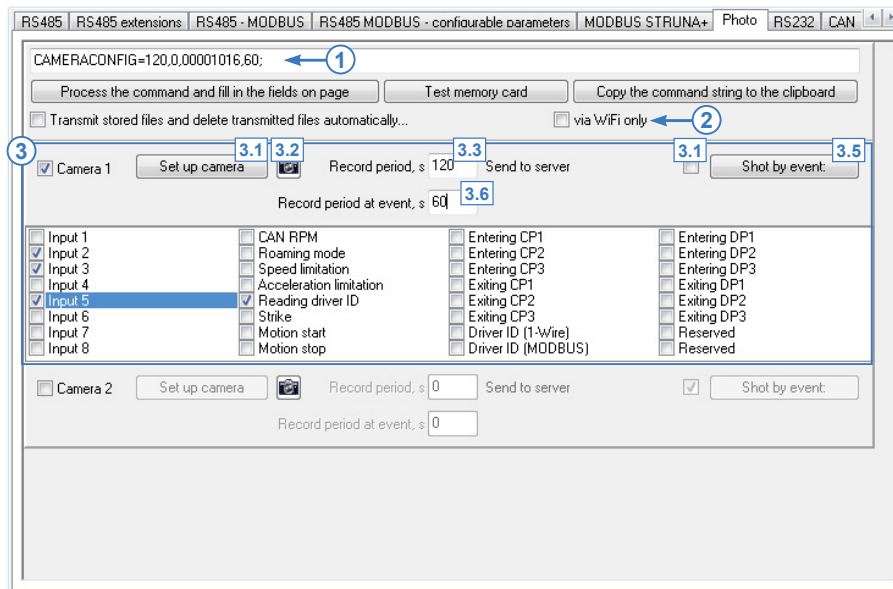

Fig.41. Photo settings.
- set a network address of the camera. To assign an address, connect only one camera to RS-485-2 bus of the device and press the "Set up camera" button (Fig.41, i.3.1). The address equal to the camera index will be assigned to connected camera;
- make a test shot to ensure that a correct address is assigned to the camera. Use the "Make shot" button (Fig.41, i.3.2) to make a shot. The shot will be recorded in additional memory of AutoGRAPH controller. The recording status is displayed on status window of the AG.GSMConf program;
- specify a period of photo recording to the device memory in the "Record period, s" field (Fig.41, i.3.3). The period must be set in seconds;
- enable the "Send to server" option in order for the controller to send a photo immediately after its recording (Fig.41, i.3.4). If the option is disabled, photos will be stored in the device's memory and sent to the server by request. ;
- if necessary, set up photo recording from the camera by events. To do it, press the "Shot by event:" button (Fig.41, i.3.5) and select the events which triggering will initiate a new photo recording. Ensure that selected events are configured correctly in the controller;